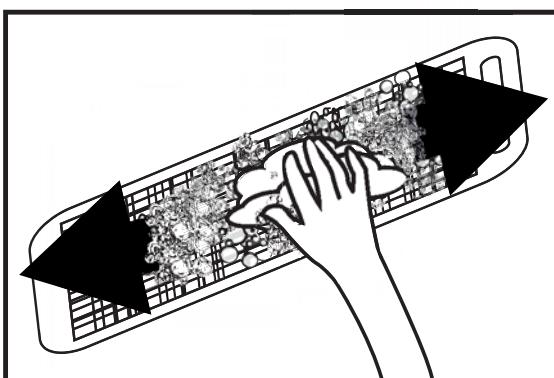

Fig. 15
- **5.2.3.** Clean the filters using a mild detergent and a clean cloth (Fig. 15). Ensure the filter is fully dry.